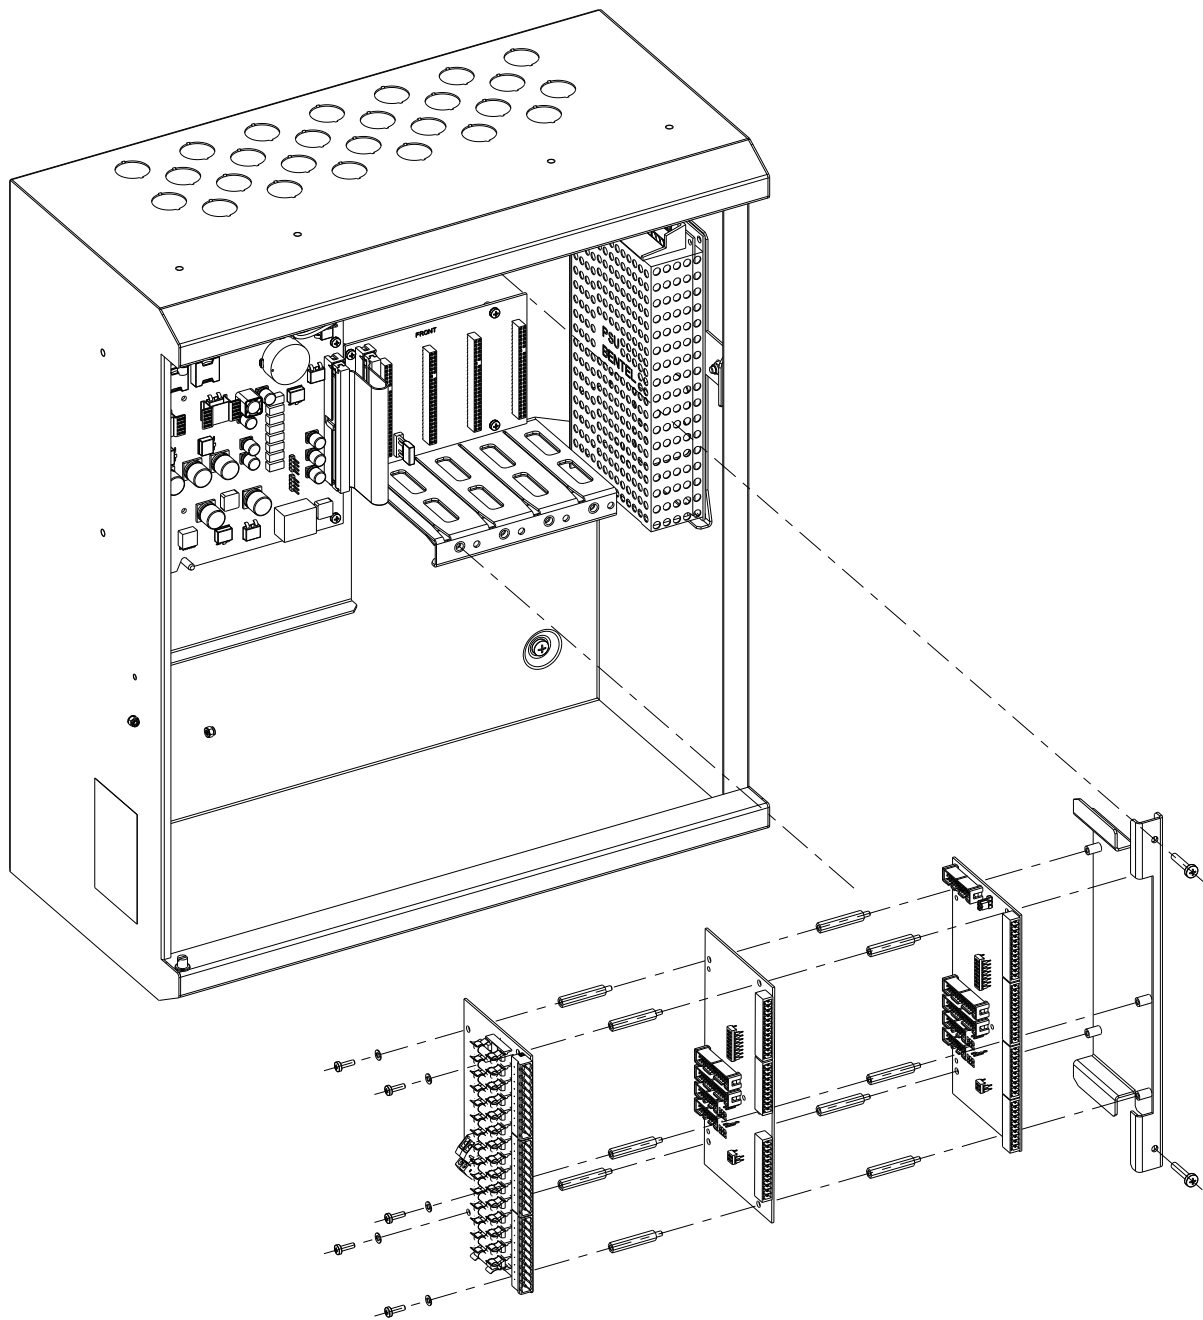

Fig. 31: FB800 and IOB800 - Fitting to Backplane Cage
- 1 Assemble the layers of units with the mounting bracket, as shown in Fig. 31. Use the layer positions you determined in the section “Decide on a Layer Order”. Use the provided stand-off pillars.
- 2 Fix the assembly into the slot card cage as shown in Fig. 31.